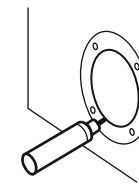

fig.1
3. Trace the outlines of the speaker mounting hole and mounting holes. (fig. 1)